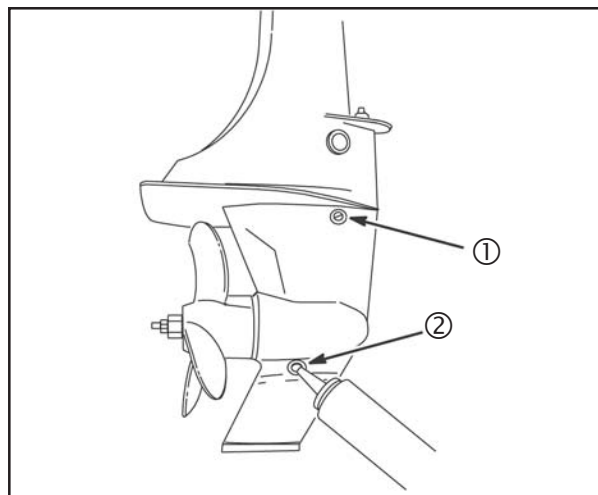

Fig. 9 – Gear Case Oil
1. Remove oil drain/fill plug (Figure 9) ② and vent plug ①.